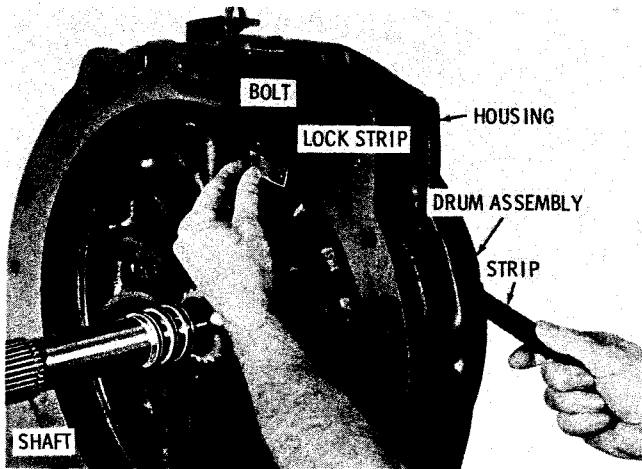

Fig. 7-45. Installing second pitot tube bolt (CBT, CLBT, VCLBT)
(7) Using a thin metal strip, between the clutch drum assembly and retarder housing, position the pitot tube to receive the remaining pitot tube bolt (fig. 7-45).
(8) Install a 5/16-24 x 2-inch bolt through the lockstrip, through the retarder housing web,
and into the pitot tube (fig. 7-45). Tighten both pitot tube bolts to 14 to 18 pound feet torque. Bend the lock strip to retain both bolts.